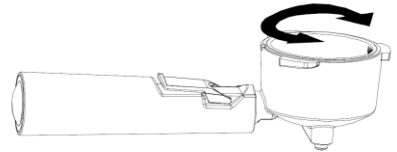

Fig. 3
2. Rotate the filter a small way to help prevent the filter from falling out of the filter when emptied (fig.3).